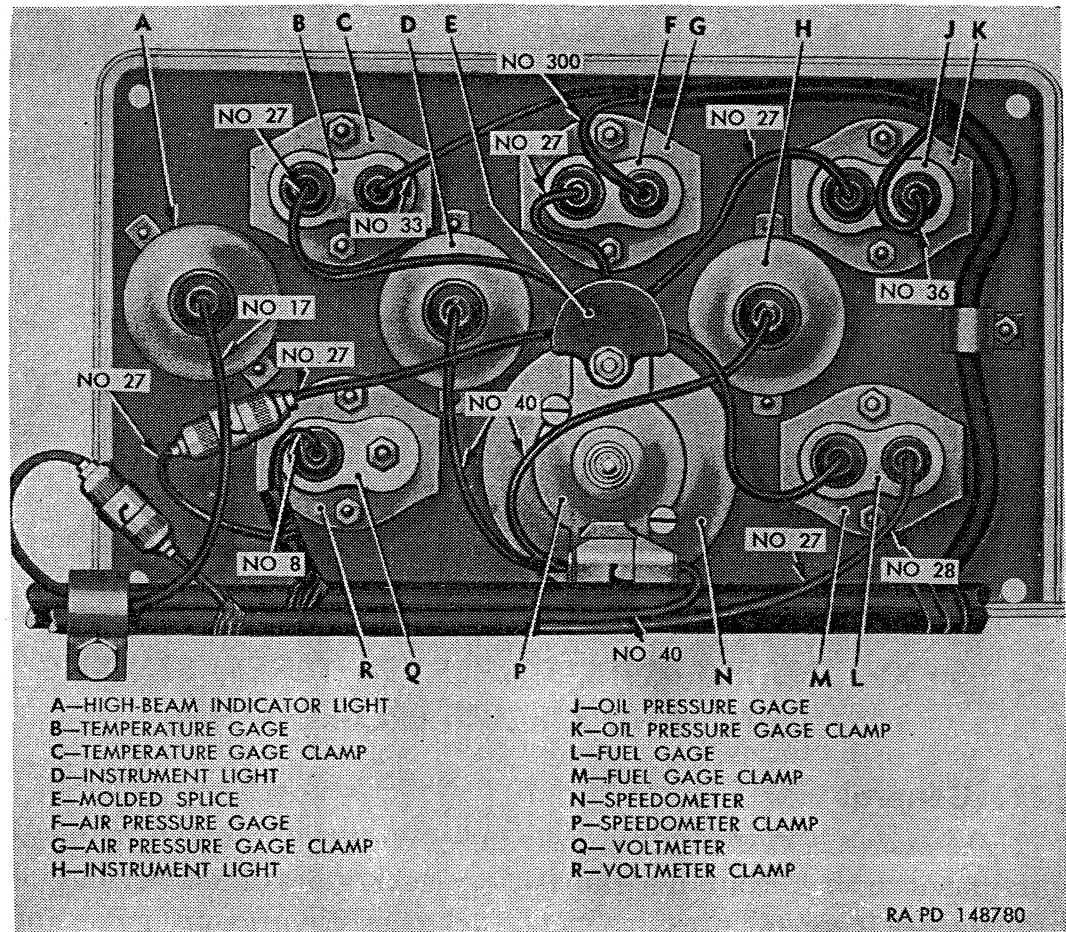

Figure 171. Instrument cluster, rear view.
*a. Instrument Cluster.* The instrument cluster, located in center of instrument board, contains the battery-generator indicator, engine temperature gage, oil pressure gage, fuel gage, air pressure gage, and speedometer (C, fig. 30). Instrument lights and high-beam indicator light are mounted on back of instrument cluster (fig. 171). Instrument cluster may be removed as a complete assembly to facilitate replacement of the individual units.
- (1) Disconnect speedometer flexible shaft from speedometer at rear of instrument cluster (fig. 171).
- (2) Remove four cap screw and lockwasher assemblies attaching instrument cluster to instrument board. Tip cluster out of instrument board, disengaging harness from clip at right side of cluster.
- (3) Replacement of individual units in instrument cluster can be made with cluster in this position. To remove complete cluster assembly, disconnect all harness cables from units on cluster.
- (1) If instrument cluster (fig. 171) was completely removed, position cluster at instrument board and connect harness cables to instrument cluster units. Refer to figure 171 or to wiring circuit diagram (fig. 167 or 168) to identify number on each cable and unit to which it connects.
- (2) Engage harness in clip at right end of instrument cluster, position cluster against instrument board, and attach with four  $\frac{5}{16}$ -24 x  $\frac{5}{8}$  cap screws with external-teeth lockwashers.
- (3) Connect speedometer flexible shaft to speedometer at rear of instrument cluster.
### b. Oil Pressure Gage Removal (fig. 171).
### c. Oil Pressure Gage Installation (fig. 171).
*b. Fuel Gage Replacement* (fig. 171). Fuel gage replacement procedure is same as for oil pressure gage (par. 173). Cable No. 27 from molded splice connects to gage male terminal, and cable No. 28 connects to gage female terminal.
*b. Temperature Gage Replacement* (fig. 171). Temperature gage replacement procedure is same as for oil pressure gage (par. 173). Cable No. 27 from molded splice connects to gage male terminal, and cable No. 33 connects to gage female terminal.
*b. Air Pressure Gage Replacement* (fig. 171). Air pressure gage replacement procedure is same as for oil pressure gage (par. 173). Cable No. 27 from molded splice connects to gage male terminal, and cable No. 300 connects to gage female terminal.
## 178. Speedometer and Flexible Shaft (fig. 171)